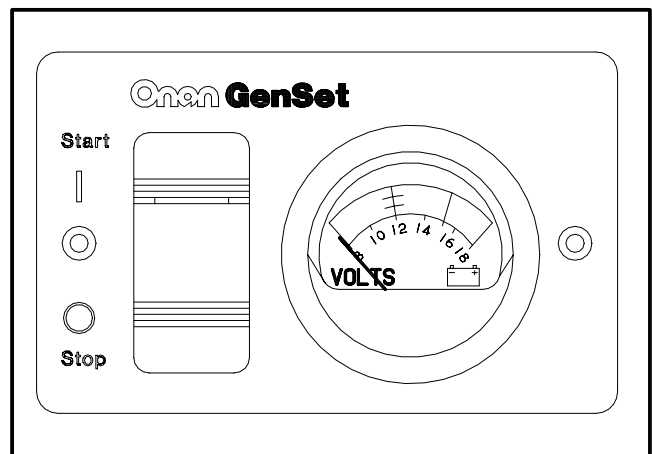

FIGURE 6. START/STOP SWITCH WITH BATTERY DC VOLTMETER
- Remote panel with start/stop switch, indicator lamp, and battery DC voltmeter (see Figure 6).